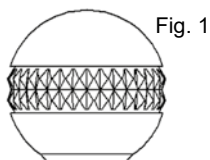

Fig. 1
- (Fig. 1,3) Knurled balls bite into the radius to eliminate unwanted movement.